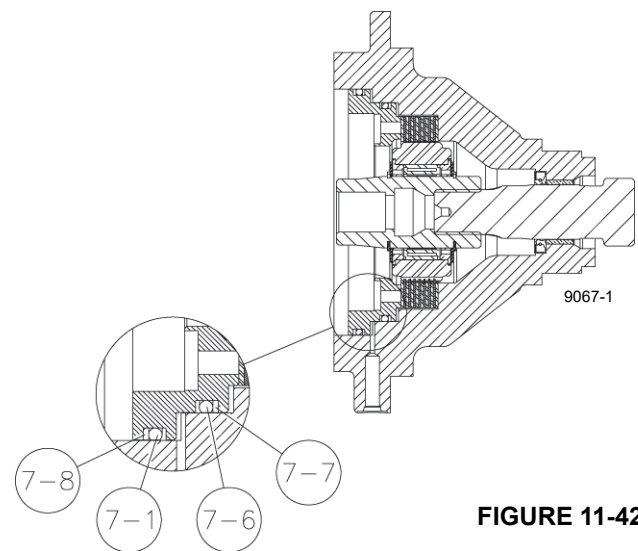

FIGURE 11-42
3. Remove the brake piston (10) by installing two pieces of 3/8 in-16UNC all-thread in the bottom of two spring pockets. Using jam nuts, screw the all-thread pieces in evenly until the piston is clear of the housing. An alternate way of removing the piston is to use a portable power unit or shop air to slowly pressurize the brake cavity until the piston is out of the bore.
4. Remove the brake driver/clutch assembly (13, 14, 15, 17, 34, and 38) from the brake housing (21).
5. Remove the stator plates (19) and friction discs (18) from the brake housing and check them for excessive wear, then replace if necessary. Additionally, check the top stator plate for scoring caused by the removal tools and polish if necessary. Friction discs should measure no less than 14 mm (0.055 in) thick and stator plates should measure no less than 1.6 mm (0.064 in) thick.
7. Examine the bushing (39) in the brake housing for wear and, if worn, replace it.
8. If the brake housing (21) is removed from the hoist, examine the journal on the brake housing where the seal (7-4) runs for wear. If severely worn, replace the brake housing.
9. Carefully disassemble the brake driver/clutch and note the side in which the markings on the clutch (34) are facing. The clutch assembly must be re-assembled with the markings facing the proper direction in order for the hoist to function properly. Inspect the surface on the input and brake drivers (Items 13 and 38) where the clutch (34) runs. If there is any pitting or spalling on the drivers then both it and the clutch must be replaced.
11. Install a new seal (7-5) into the brake housing. If the brake housing is removed from the hoist, temporarily install the input sun gear (8) into the brake housing and slide the driver/clutch assembly onto the sun gear spline.
12. Install the stator plates (19) and friction discs (18) into the brake housing starting with a stator and alternating friction discs and stator plates. There is one more stator plate than friction disc so you will finish with a stator plate.
13. Coat the new o-rings and backup rings (7-1, 7-6, 7-7, and 7-8) with light oil and install onto the piston (10, Figure 11-42).